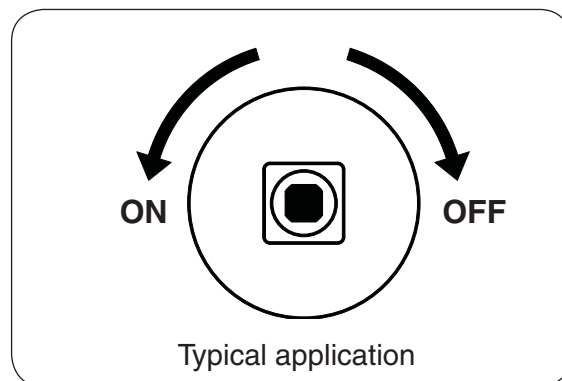

Fig. 15-2
4. **Once the match is burning and in position**, slowly turn the key valve counter-clockwise toward the **ON** position until it no longer rotates (see Fig. 15-2). Your burner should light.
To extinguish your gas burner, turn the key valve clockwise toward the **OFF** position until it no longer rotates (see Fig. 15-2). Be sure the key valve is turned fully off to avoid any gas leakage.